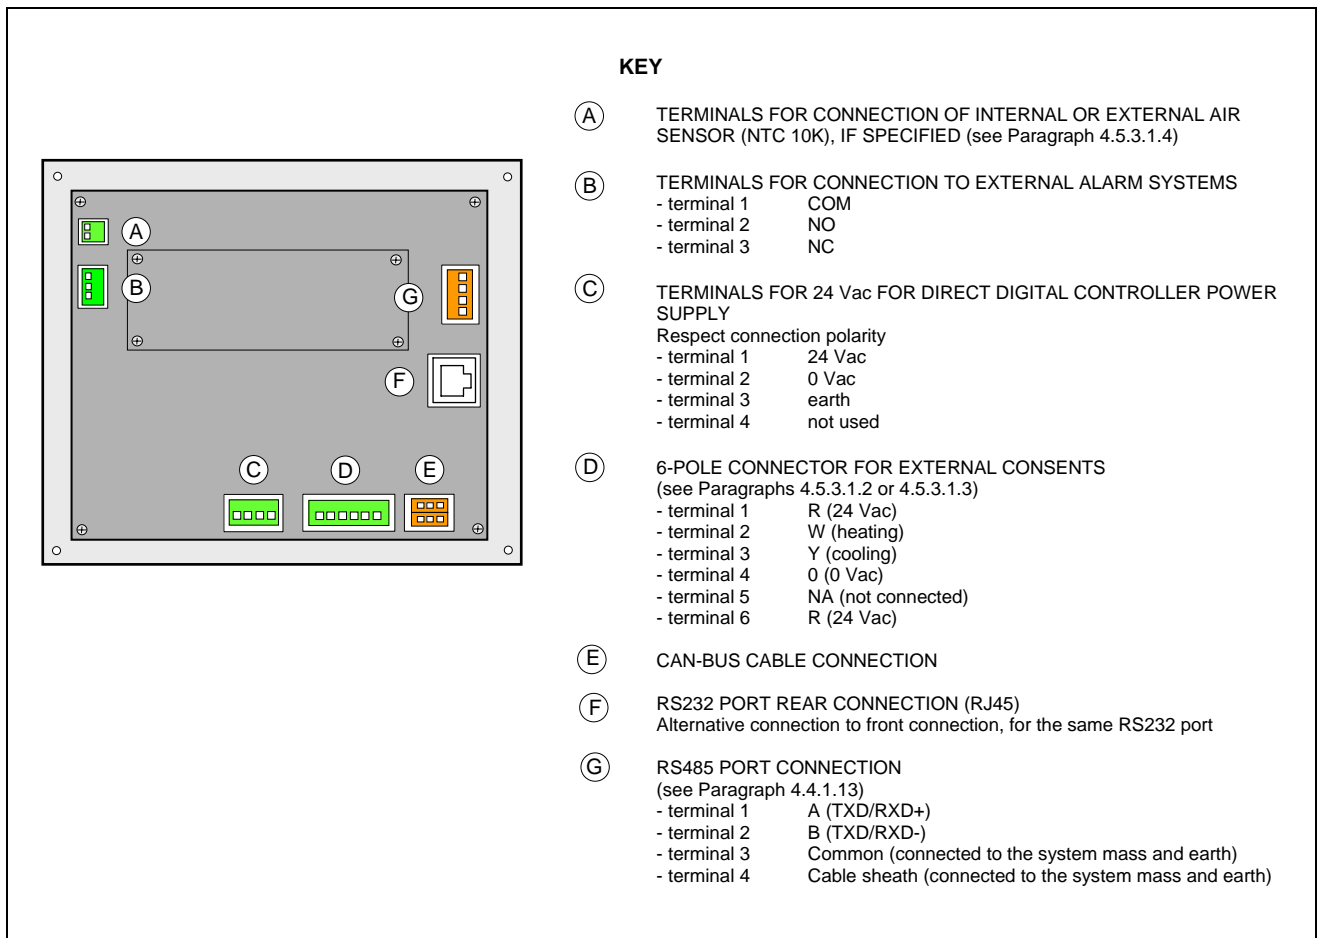

Figure 13– REAR VIEW OF DIRECT DIGITAL CONTROLLER and DETAIL OF ELECTRICAL CONNECTIONS
The following connection terminals are located on the rear of the Direct Digital Controller (see Figure 13):
- 2-pole connector for ambient air temperature sensor, supplied as an optional accessory, if specified (see detail A in Figure 13);
- 3-pole connector for alarm signal relay contacts (see detail B in Figure 13);
- 4-pole connector for 24 Vac power supply. Current is supplied to the DDC by a 24 Vac, 50/60Hz single secondary transformer (see detail C in Figure 13);
- 6-pole connector for external operation commands, if specified (see detail D in Figure 13);
- 6-pole CAN-BUS connector for connecting the DDC to the units (see detail E in Figure 13).
In particular applications, an external alarm signal may be required for high chilled water temperature and/or for low hot water temperature, or for a general alarm that allows any anomalies in the units to be signalled. To this end, a specific terminal with 3 contacts (see detail B in Figure 13) is provided on the rear of the Direct Digital Controller for the activation, via a relay, of an alarm signal, such as a light, siren or other device (for further information see Paragraphs 4.4.2.6.7 – “**Temperature Alarm Setup (Master DDC only)**” on page 100 and 4.4.2.4 – “**Alarm output setup**” on page 86.